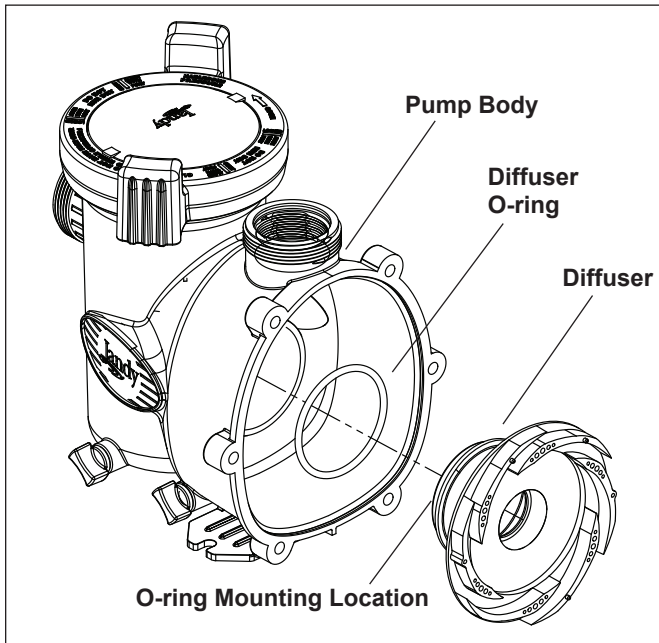

Figure 12. Pump Body and Diffuser Exploded View
4. Replace the diffuser over the impeller, using care to insert alignment pins into the correct holes. The alignment pins in the diffuser allow the diffuser to be inserted only one (1) way.
5. Replace the two (2) small Phillips-head screws. Tighten the screws to draw the diffuser against the motor backplate.
6. Make sure the diffuser o-ring, o-ring groove, and o-ring seal area are clean and free of debris, which could cause a leak. If you removed the diffuser o-ring during disassembly, re-install it on the diffuser, as shown in Figure 12. If grease is used to retain the diffuser o-ring, it **must be silicone based. Do not use petroleum-based grease. It will destroy the o-ring.**